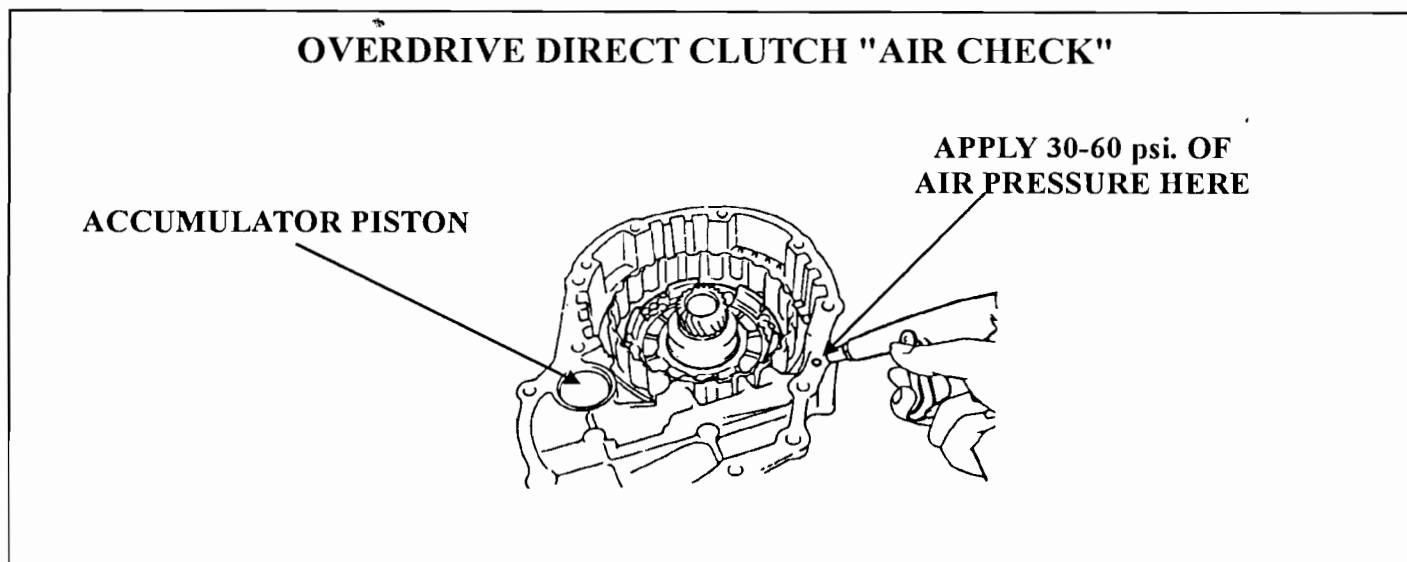

Figure 74
- NOTE: When air checking the Overdrive Direct clutch, through the Overdrive case, ensure that the accumulator strokes against its cover and the Overdrive Direct clutch plates apply. (See Figure 74)